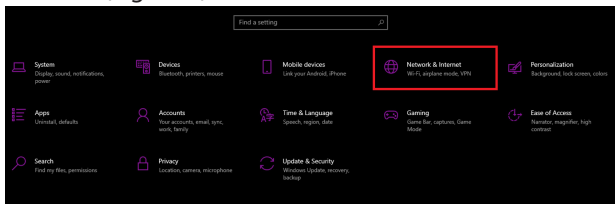

Figure 4
- Navigate to **System Settings** and select **Network & Internet**. (Figure 4)